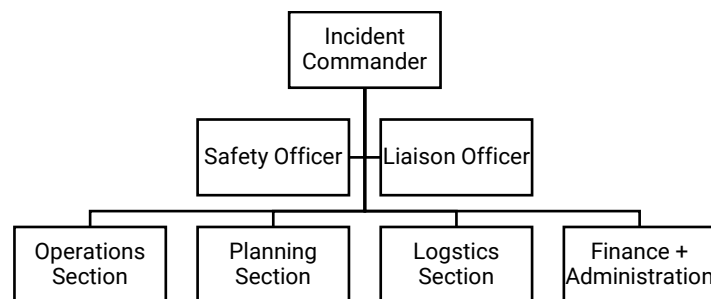

Figure 2: Incident Command Structure
The first responder on the scene will establish incident command and assume the role of Incident Commander (IC). As higher ranking, or more qualified, personnel arrive on scene, they will take over as IC. The IC will communicate the need for resources to the ESFs. Figure 2 illustrates a typical ICS organization chart. The ICS organization is scalable and flexible based on the incident needs.